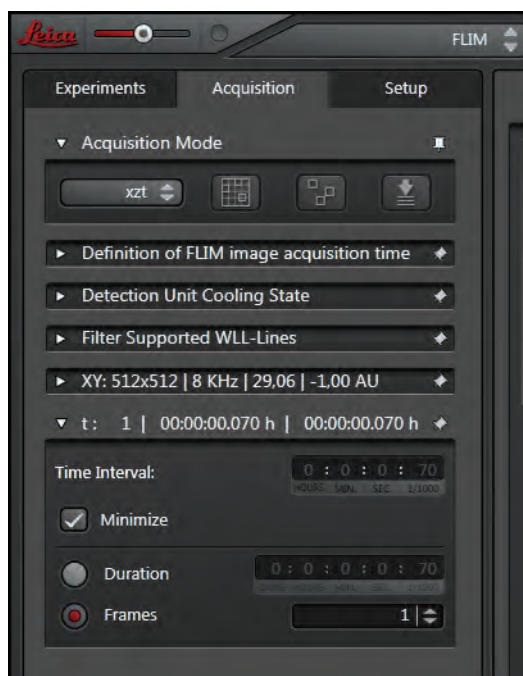

Figure 140: Defining an FLIM time series
6. You can define a time series using the time series dialog (**Figure 140**). The following inputs are possible: